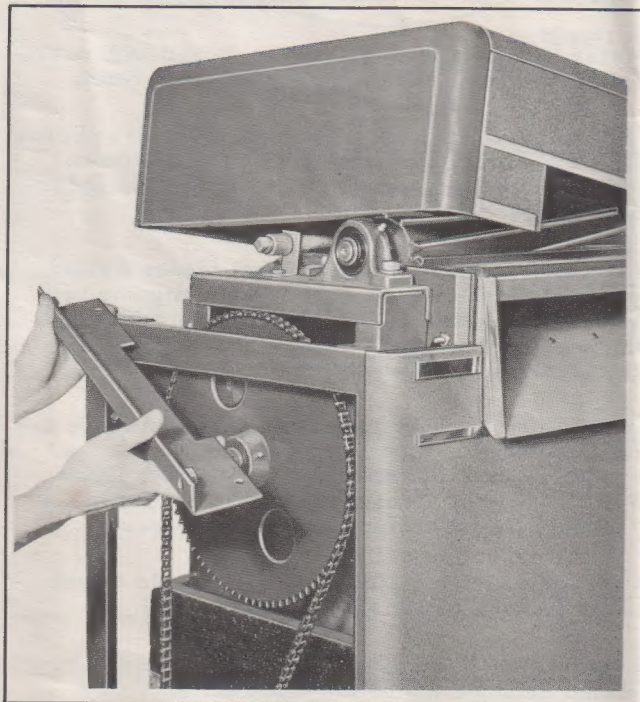

Fig. 3
- (b) Lift the top cover of the unit, and remove the two shipping angles, one on each side of the unit. See Fig. 3.